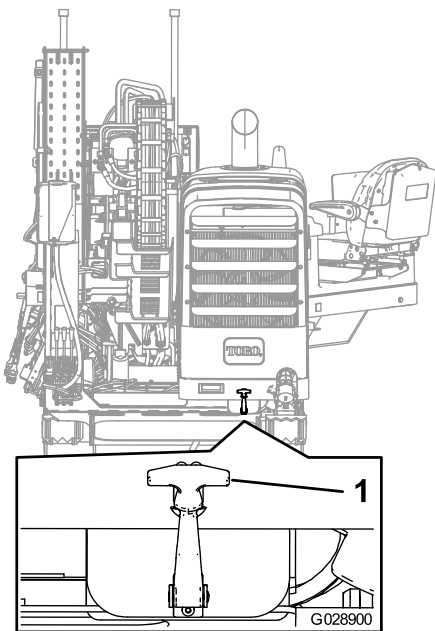

Figure 60
2. Pull the hood latch out (Figure 60).